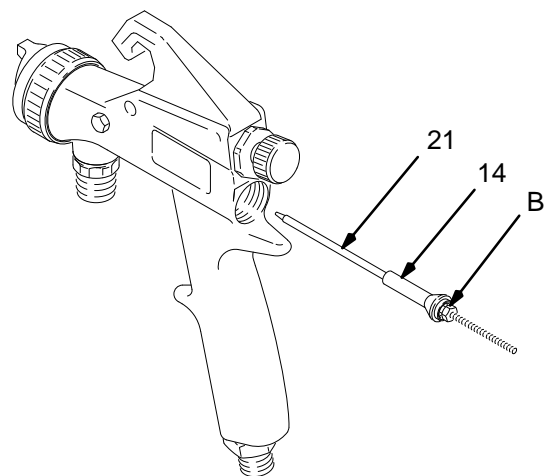

Fig. 9
6. Place the new air valve assembly (14) on the fluid needle (21), against the nut (B). See Fig. 9. This helps align the entrance of the air valve stem into the inside diameter of the u-cup seal (33) without damaging the seal lip.
7. Install the fluid needle (21) and the air valve assembly (14) into the back of the gun.